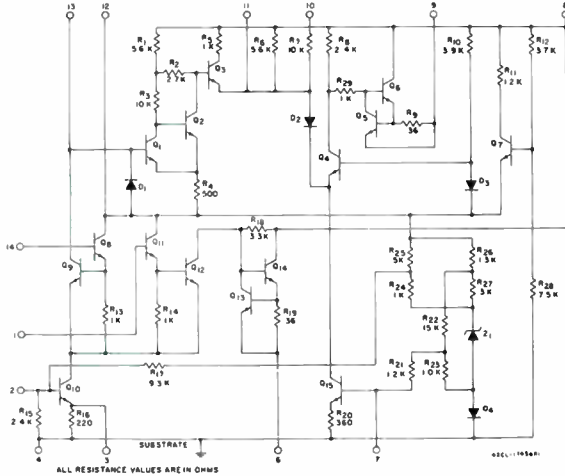

Fig. 6 - Schematic diagram for CA3071.
1. APC ADJUST: With  $S_2$  in "OFF" position adjust the "APC ADJ." potentiometer to set oscillator frequency at 3.579545 MHz  $\pm 25$  Hz. With  $S_1$  in position 1 measure frequency at terminal No. 2 output, using crystal probe shown in Fig. 6.